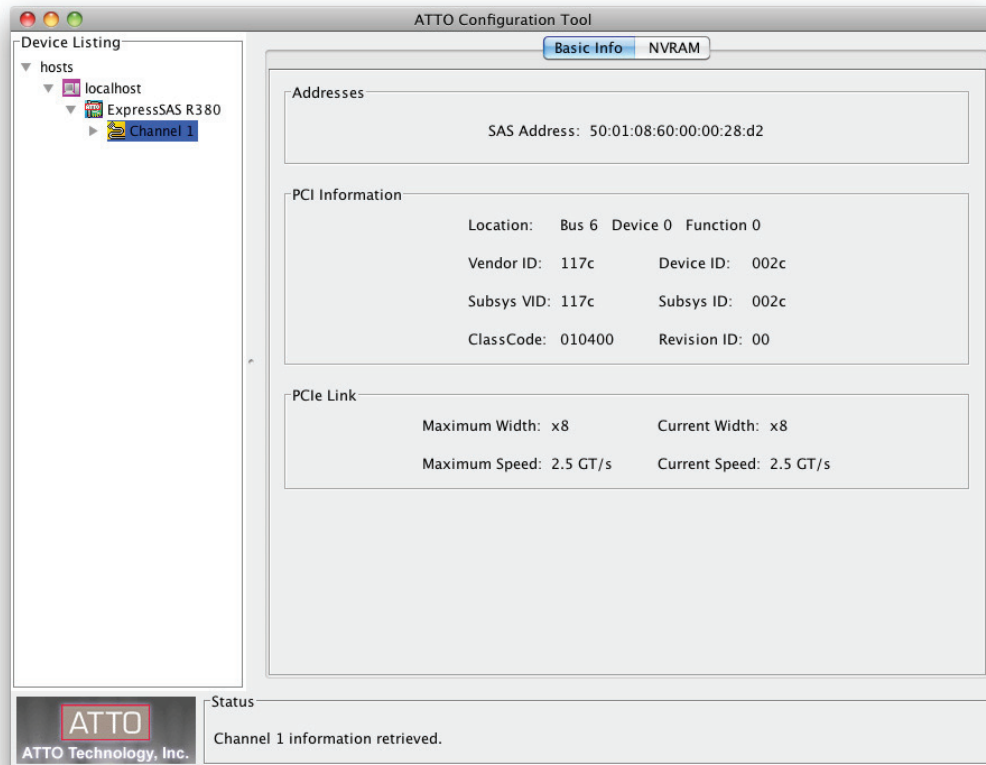

Figure 7
- The **Basic Info** tab displays PCI information for the selected channel. See **Figure 7** on page 6.